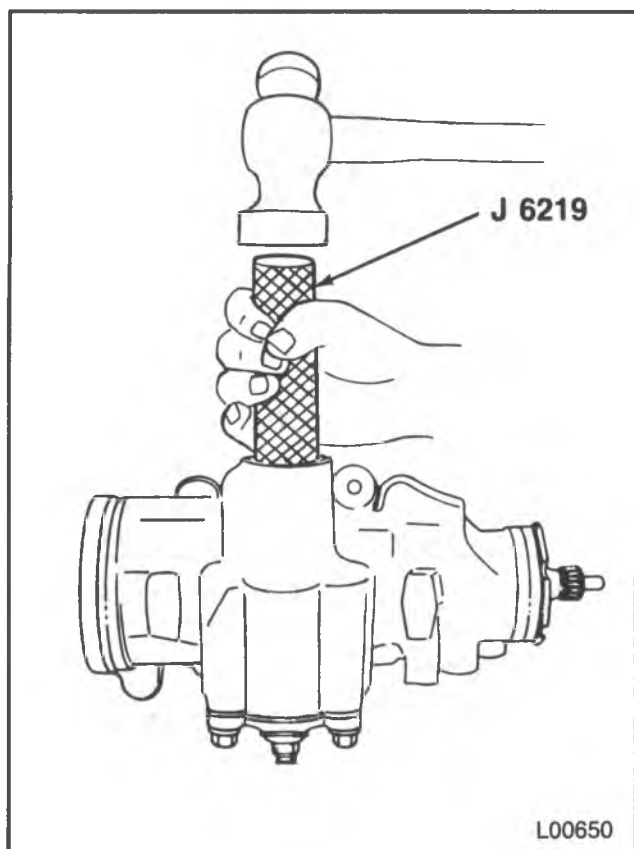

Figure 14 — Installing Pitman Shaft Seals
1. Single lip seal and washer using J 6219 (figure 14). Install far enough to provide clearance for the remaining seal, washer and retaining ring. **DO NOT** allow the seal to bottom on the end of the counter bore.
2. Double lip seal and washer using J 6219 (figure 14).